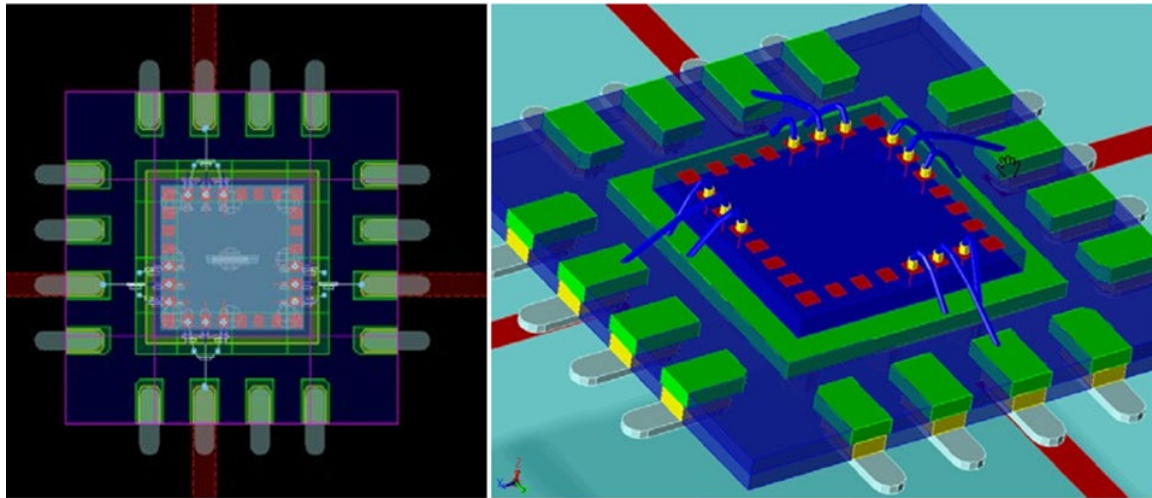

Figure 5. Optimize RFIC designed in Virtuoso or Custom Compiler together with off-chip 3DHI packaging and integration inside Keysight ADS.
- Common Open Access (OA) database enables RFICs designed in Virtuoso or Custom Compiler to be optimized together with off-chip packaging or in 3DHI module using Nexus and RFPro in ADS. See Figure 5.